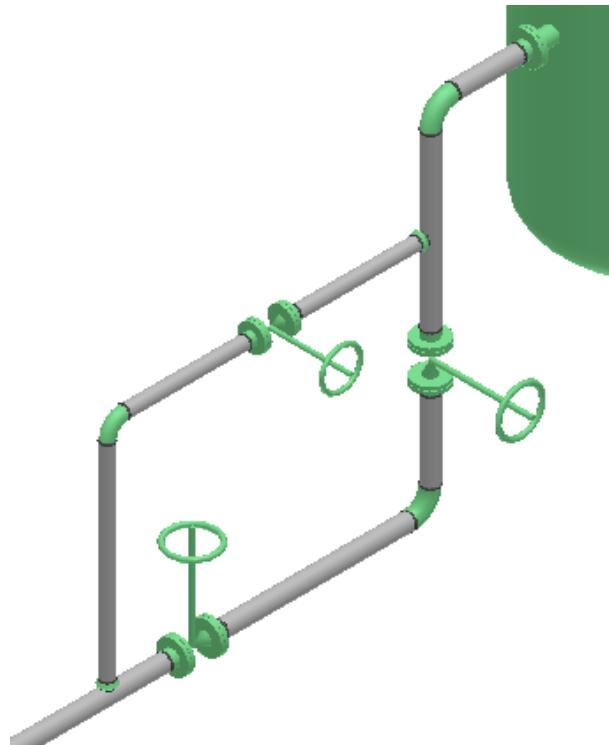

Figure 7.42: Placed Gate Valves
22. Repeat the above steps to place two gate valves, as shown in Figure 7.42.